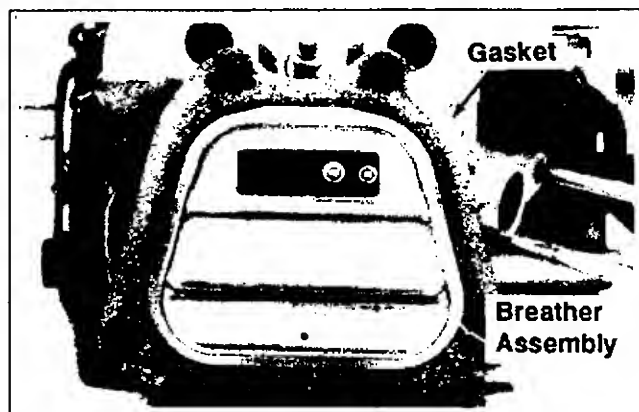

Figure 11-22. Installing Breather Assembly.
6. Install a new valve cover gasket. Install the breather assembly on the cylinder head. See Figure 11-22.